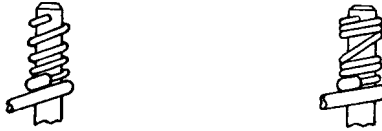

FIGURE 21. Separated Turns Resulting from Insufficient Pressure
- e. Insufficient pressure on the tool when wrapping may cause separation as shown Figure 21.